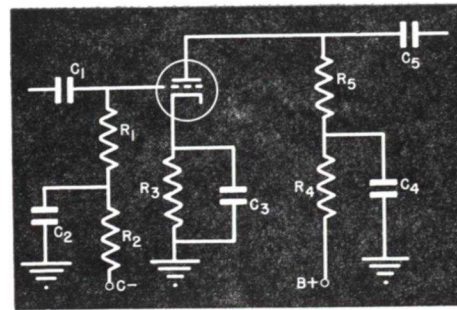

FIG. 4. Plate and grid decouplers.
**Decoupling Circuits.** Figure 4 shows typical decoupling circuits used